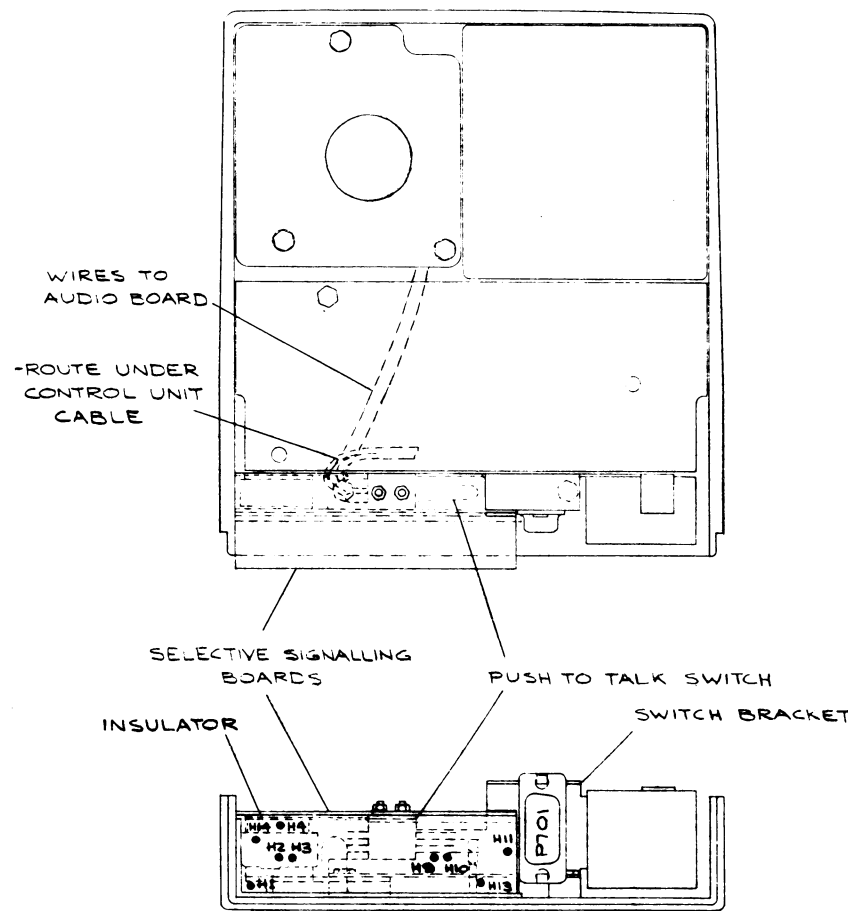

FIG. 3
9. MAKE CONNECTIONS PER CONNECTIONS CHART AND ROUTE WIRES AS SHOWN (FIG. 3).
10. ASSEMBLE SWITCH BRACKET, PRINTED BOARD (SELECTIVE SIGNALLING) & INSULATOR, SECURE PRINTED BOARD WITH HARDWARE MOUNTING PUSH TO TALK SWITCH. (FIG. 3)